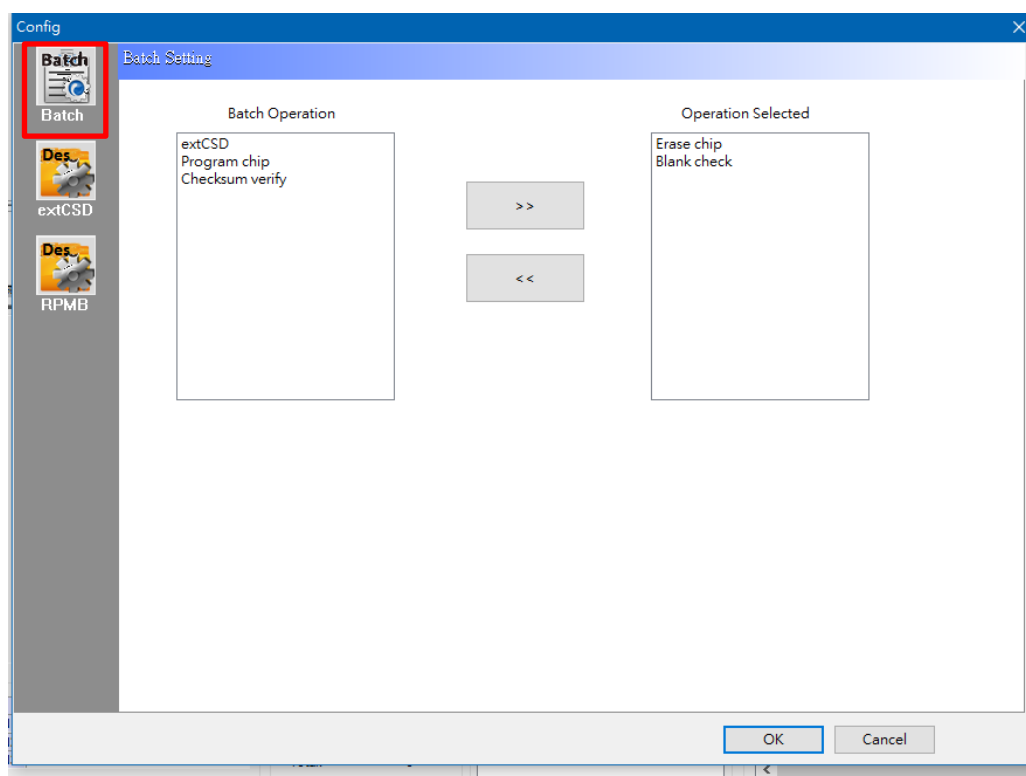

Fig. 5-59
- **Batch Setting:** Double click the programming options that are listed in the **Batch Operation box** or click >> or << to move the options to the **Operation Selected box**. The AutoBatch will program according to the listed order in the **Operation Selected box** (As Fig. 5-59).